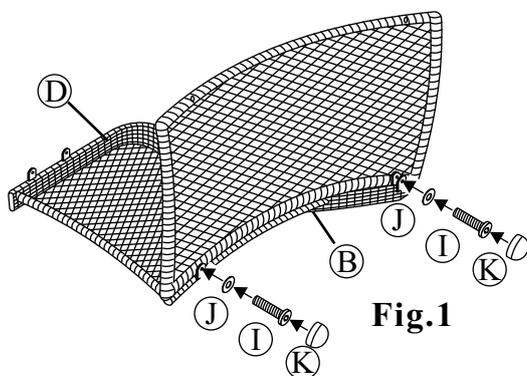
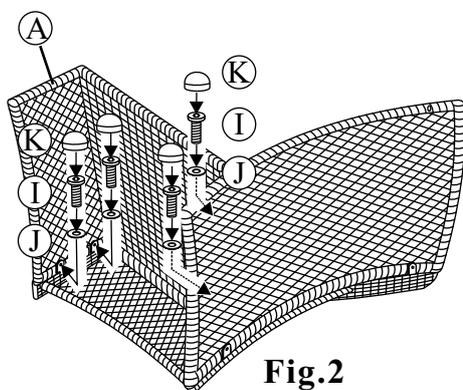
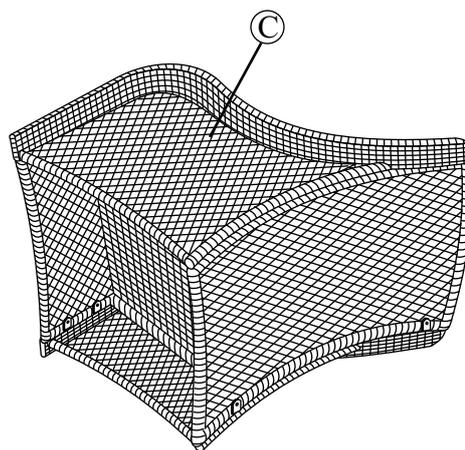

Fig.1
Fig.2
Fig.3
- 1 Assemble furniture on a smooth, non-abrasive surface. Attach the back frame to right arm by using two 1/4"x18 mm bolts and washers as shown in **Fig.1**. Guide the bolts through holes in back frame, into pre-drilled holes in the right arm. **Hand tighten only**. Attach the seat frame to right arm and back frame by using four 1/4"x18 mm bolts and washers as shown in **Fig.2**. **Hand tighten only**. Attach the left arm to back and seat frame by using four 1/4"x18 mm bolts and four washers as shown in **Fig.3**. **Hand tighten only**.
Attach the seat frame to the back frame by using four 5/16"x40 mm bolts and washer as shown in *Figure 1*. Guide these bolts through the holes in the seat frame, into the fixed nuts already in place in the back frame. **Do not over tighten.**
Attach love seat arm by inserting two 5/16"x25 mm bolts with washers through the holes in front seat portion of the love seat frame and into the holes in the love seat arm shown in *Figure 2*. Attach back of love seat arm by inserting two 5/16"x40 mm bolts with washers through holes in the back portion of love seat frame and into the holes in the rear portion of the love seat arm as shown in *Figure 2*. **Hand tighten only.** Repeat for the opposite side.